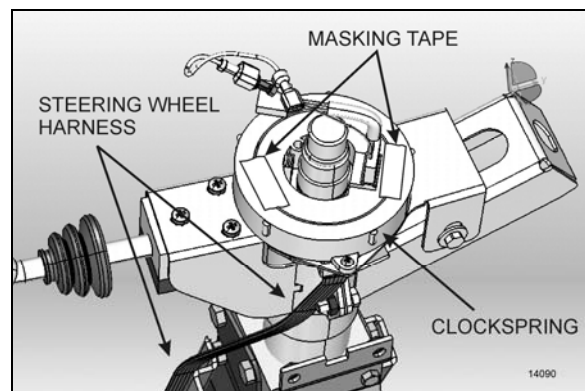

FIGURE 13: LOCKING THE CLOCKSPring IN PLACE
7. Once the steering wheel is removed, it is important to block any rotating movement of the clockspring in order to prevent it from losing its neutral position. Use two pieces of masking tape to lock it in place (Figure 13).